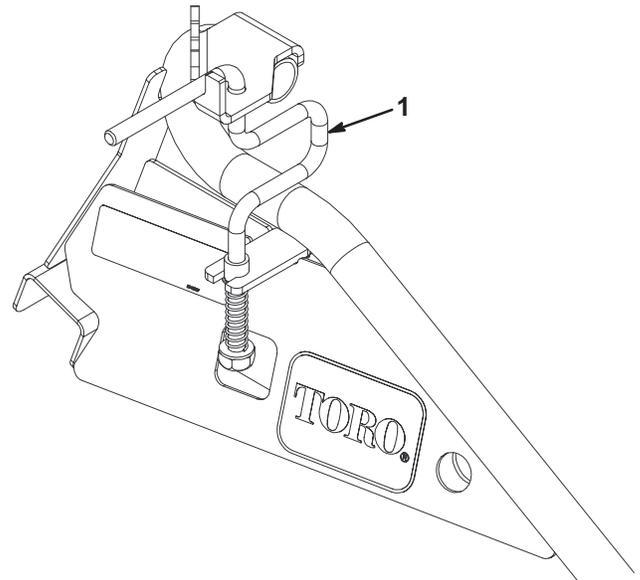

Figure 12
- On rail ramps, lift wheel rod and rotate behind greens mower transport wheels (Fig. 12).